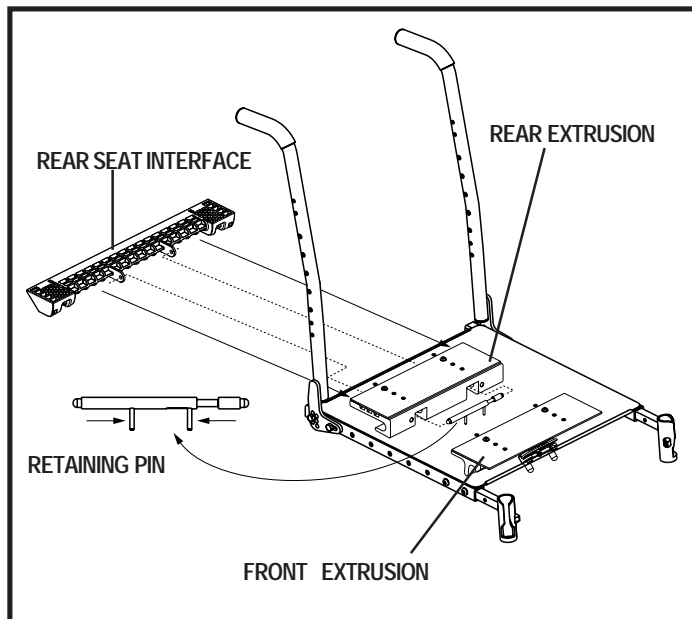

Figure 11. Rear Seat Interface Installation (Shown Without Armrests for Clarity)
The Quantum 1107 use a seat interface system to attach the seat assembly to the power base assembly. This enables you to install and remove the seat quickly and easily. The main components are a pair of aluminum extrusions mounted to the underside of the seat base and seat interface mounted on the power base. See figures 11 and 12.
2. Slide the rear seat interface into the rear extrusion. See figure 11.